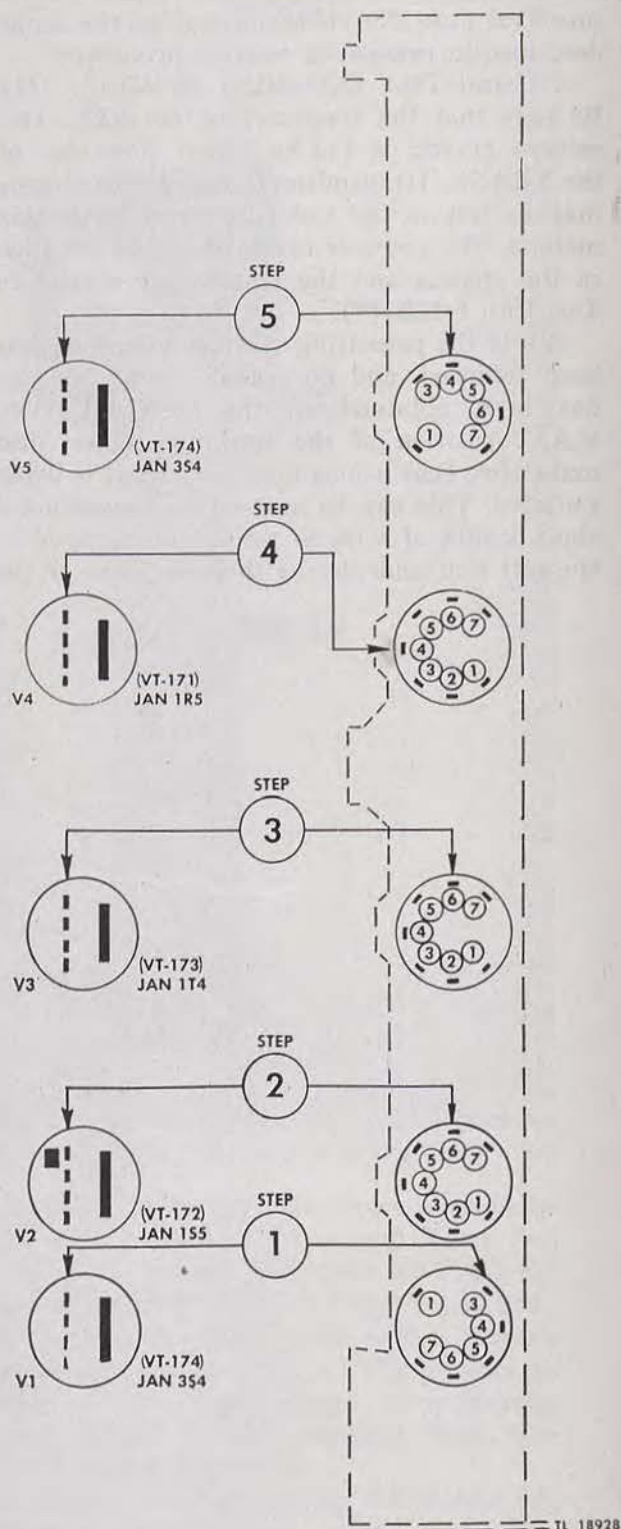

Figure 39. Stage-by-stage trouble location, Radio Receiver and Transmitter BC-611-(*).
c. PROCEDURE. With the aid of figure 39 and table VI inject the signal at the given points in the set until the trouble is isolated within a particular stage. Apply the *hot* lead of the signal generator to the lug of the tube socket or switch in accordance with figure 39. A signal should be heard or read on the output meter. See table VII for type of signal generator, frequency, and input voltage. After the trouble has been localized to a particular portion of a stage, make a resistance and voltage check of individual components using table VIII to locate the faulty part.